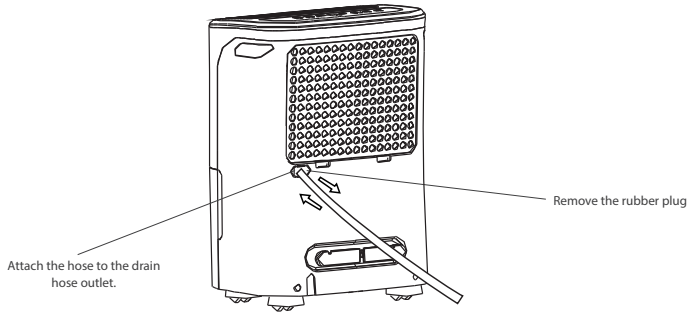

Fig. 7
- Remove the rubber plug from the back drain hose outlet. Attach a drain hose and lead it to the floor drain or a suitable drainage facility (see Fig.7).